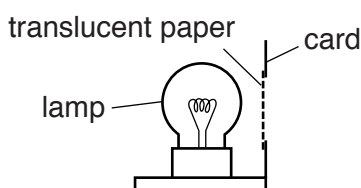

Fig. 3.1
- (ii) Illuminated object consisting of stiff card with a triangular hole of height 1.5 cm (see Figs. 3.1 and 3.2). The hole is to be covered with thin translucent paper (e.g. tracing paper). See notes 1 and 2.